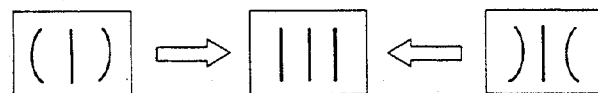

Fig. 28-4
3. Minimize the side pincushion distortion with S.P.N (RV5) on the D board as shown in Fig 28-4.
6. Minimize the side pincushion distortion with S.P.U (RV6) on the D board as shown in Fig 28-4.